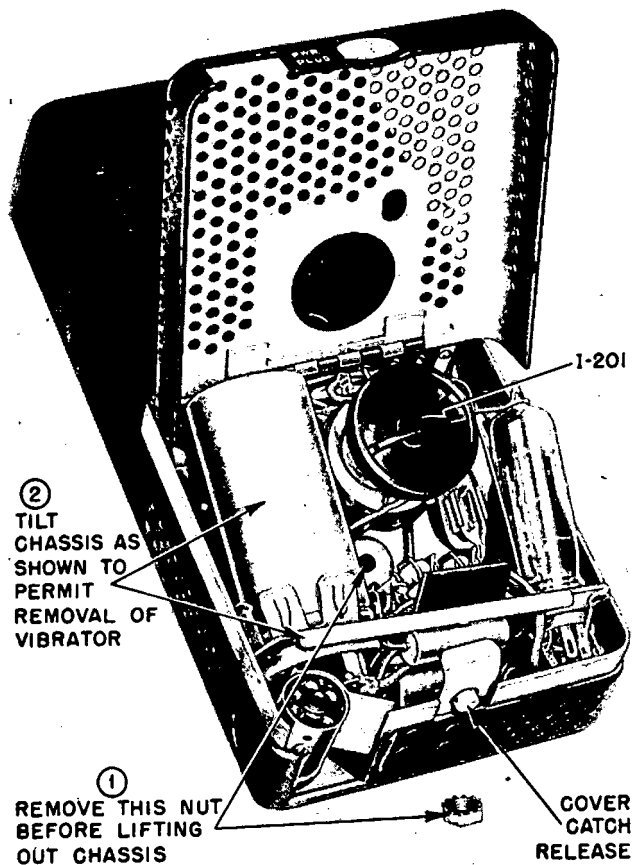

Figure 20. Power Supply RP-6-XX vibrator replacement
- a. Loosen nut shown in Figure 20.